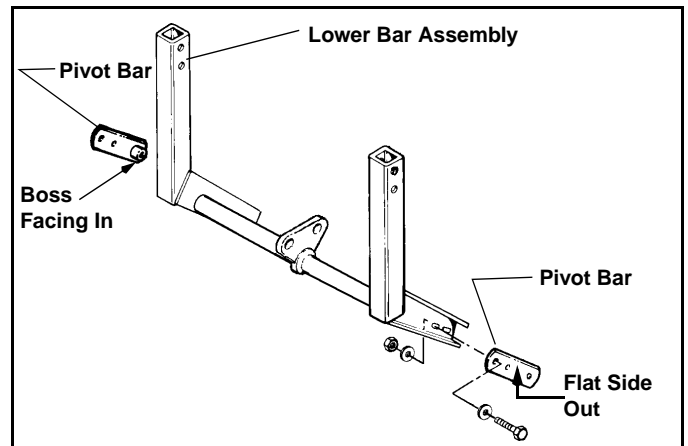

Figure 1
3. Loosely assemble Pivot Bar to Lower Bar Assembly outer arms. Use, two (2) 3/8" x 1-1/4" Capscrew (#20), with two (2) 3/8" Washers on each Capscrew and Nylock Nuts provided per Pivot Bar. (See Figure 1)
NOTE: Raised Boss on Pivot Bar must face to INSIDE of assembly. (See Figure 1)